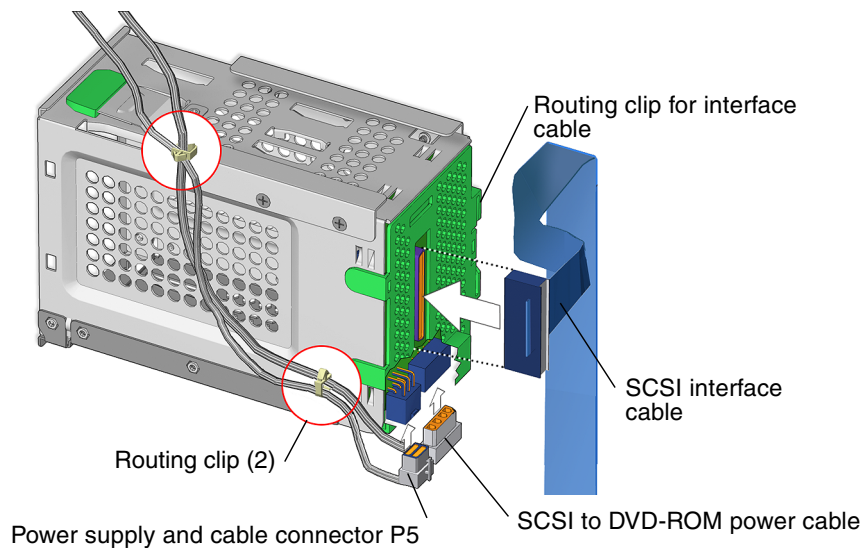

FIGURE 13-30 Connecting the Hard Drive Assembly Cables
7. Connect and route the interface cable (FIGURE 13-30).
8. Reconnect power cables (FIGURE 13-30).